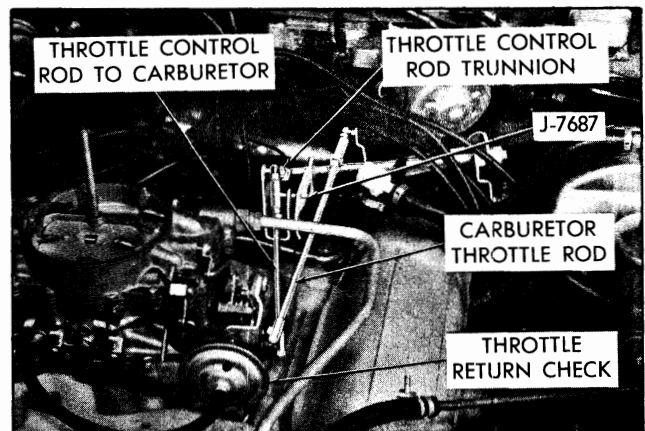

Fig. 7D-41 Linkage Pin Installed
6. While holding throttle control rod to transmission in this position, tighten upper and lower trunnion lock nuts finger tight (Fig. 7D-41). Shorten throttle control rod to transmission by backing off lower trunnion nut $2\frac{1}{2}$ turns and tighten upper nut securely. Remove gauge pin.